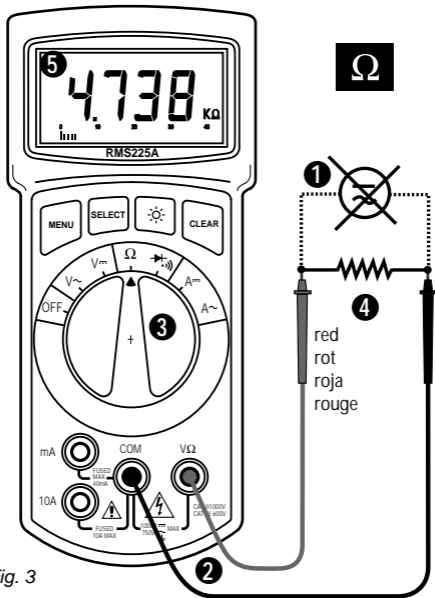

Fig. 3
### **RESISTANCE MEASUREMENT (See Fig. 3)**
inaccurate readings. ❷ Connect test leads as shown in figure 3. ❸ Set Function/Range Switch to  $\Omega$  position. ❹ Connect test leads to circuit being measured. ❺ Read resistance value on Digital Display. Open circuits will be displayed as "I.O.L".
### ***D • Widerstandsmessung (siehe Fig. 3)***
### **E • Medidas de Resistencia (vea Fig. 3)**
### **F • Mesure de Résistance (voir fig. 3)**